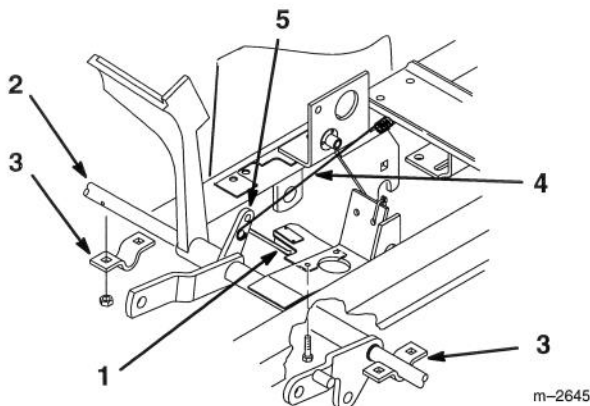

Figure 3
1. Remove the brake micro switch and mounting plate, next to pedal, and move to the side, out of the way (Fig. 3). Save mounting hardware.
2. Remove the right side cross shaft bracket and loosen the left side bracket so brake pedal drops down (Fig. 3). Save all mounting hardware.
6. Check that clutch and brake pedals are located in front of pedal stops. Install right side cross shaft bracket with previously removed hardware, and tighten left side bracket (Fig. 3).